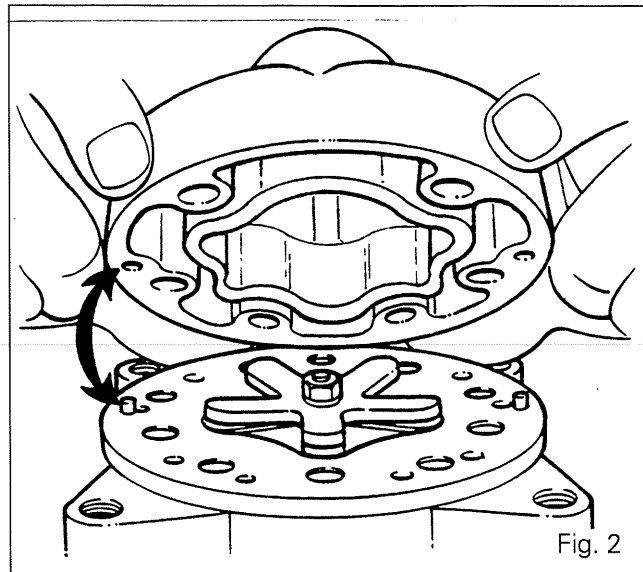
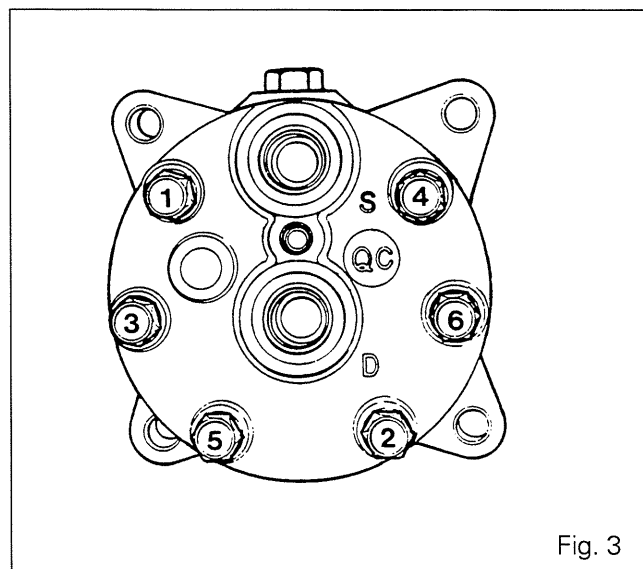

Fig. 2
Fig. 3
2. Align the valve plate locating pins to the pin holes in the block and position the plate, the top valve plate gasket and the cylinder head (Fig. 2). The cylinder head low pressure (S) and high pressure (D) connections must be facing upwards and in line with the compressor oil filler hole (Fig. 3).
3. Tighten the 6 cylinder head bolts to a torque of 34 Nm (25 lbf/ft) using the star configuration as shown Fig. 3.